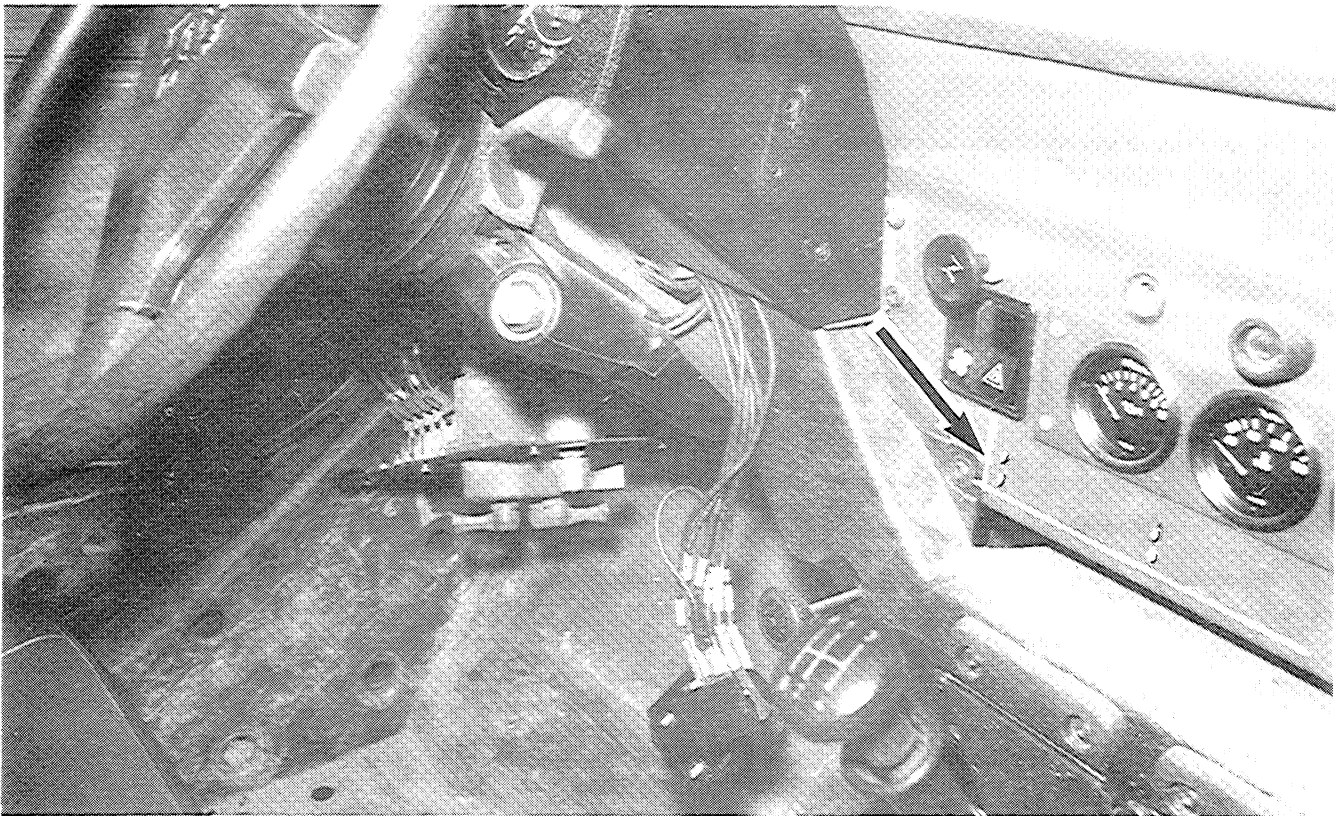

Figure 5 Locating and Drilling Switch Bracket Holes
- b. Install the switch into the large hole in the fabricated bracket (10), reinstall the switch plate and secure using the previously-removed nut. Reinstall the switch knob.
- c. See Figure 5. Fit the switch bracket under the instrument panel, on the dashboard, so the leg of the